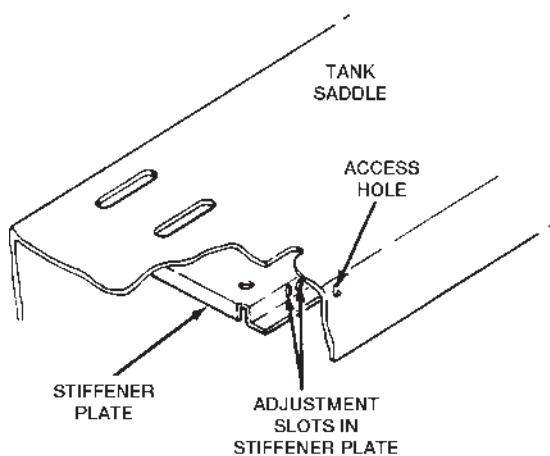
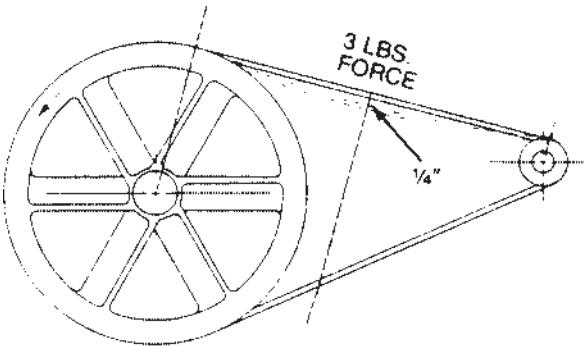

Figure 9
Figure 10
- Push the engine back into regular position. Achieve belt tension by inserting a large screwdriver into the hole in the saddle which is located on the belt guard side of the saddle below the engine and prying the stiffener plate back. See figure 9. Proper tension is approximately 1/4" belt deflection measured mid way between the pulley and flywheel when a 3-pound weight or equivalent finger pressure is applied at this point. See figure 10.